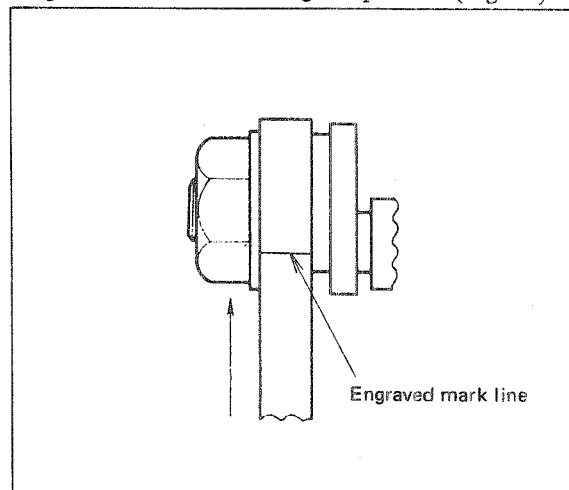

Fig. 14
- c) The maximum stretching ratio at 1 : 0.6 is obtained by setting the mark line to the highest position (Fig. 14).